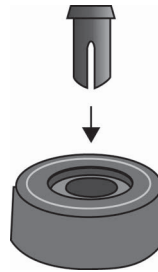

Figure 49. Inserting the Rivet Housing into the Bumper Foot
2. Inset a rivet housing into a bumper foot. Refer to Figure 49.